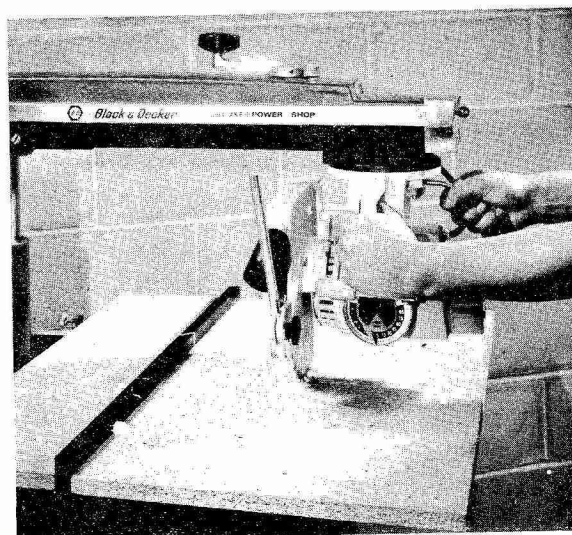

FIGURE 2
- e With the saw still running and your left hand still on the handle release the yoke lock with your right hand and pull it with sufficient strength so the yoke clamp handle presses against the yoke locator pin bell pulling the yoke locator pin out of the hole in the roller head. You can now rotate the saw blade in a clockwise direction. Release the pressure on the bell and continue rotating the blade until the spring mounted yoke locator pin falls into the next hole. You have now cut in the table top a $\frac{1}{4}$ turn groove known as the swing line. The saw is now in the "in-rip" position. (Refer to figure 2) **Loosen Rip Lock.**